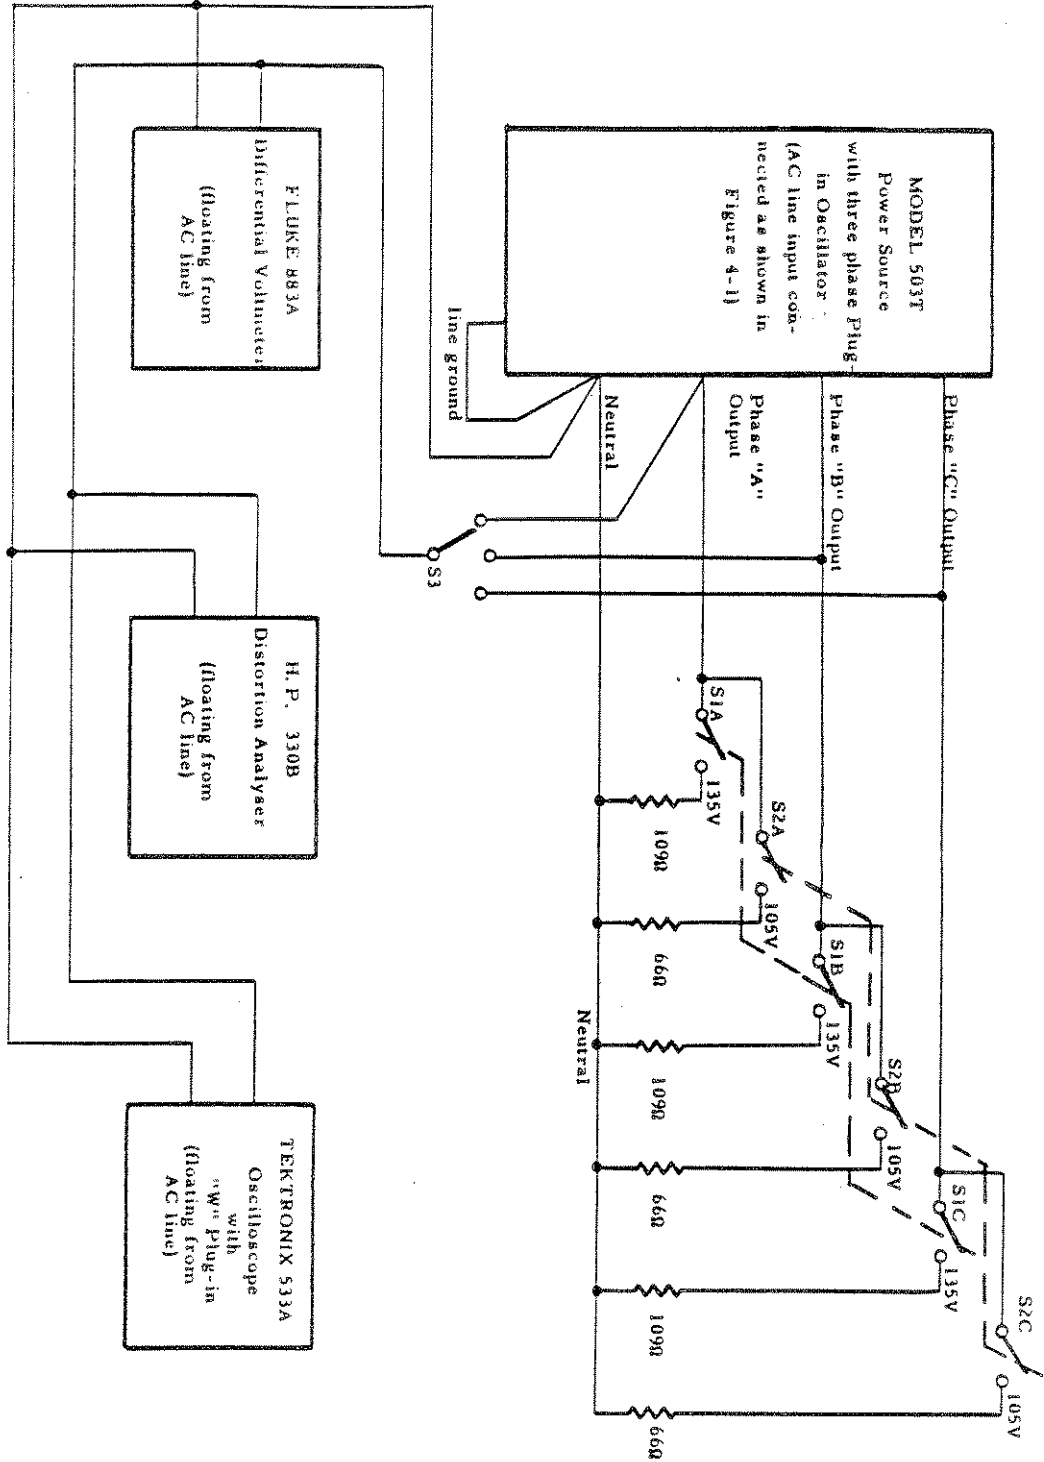
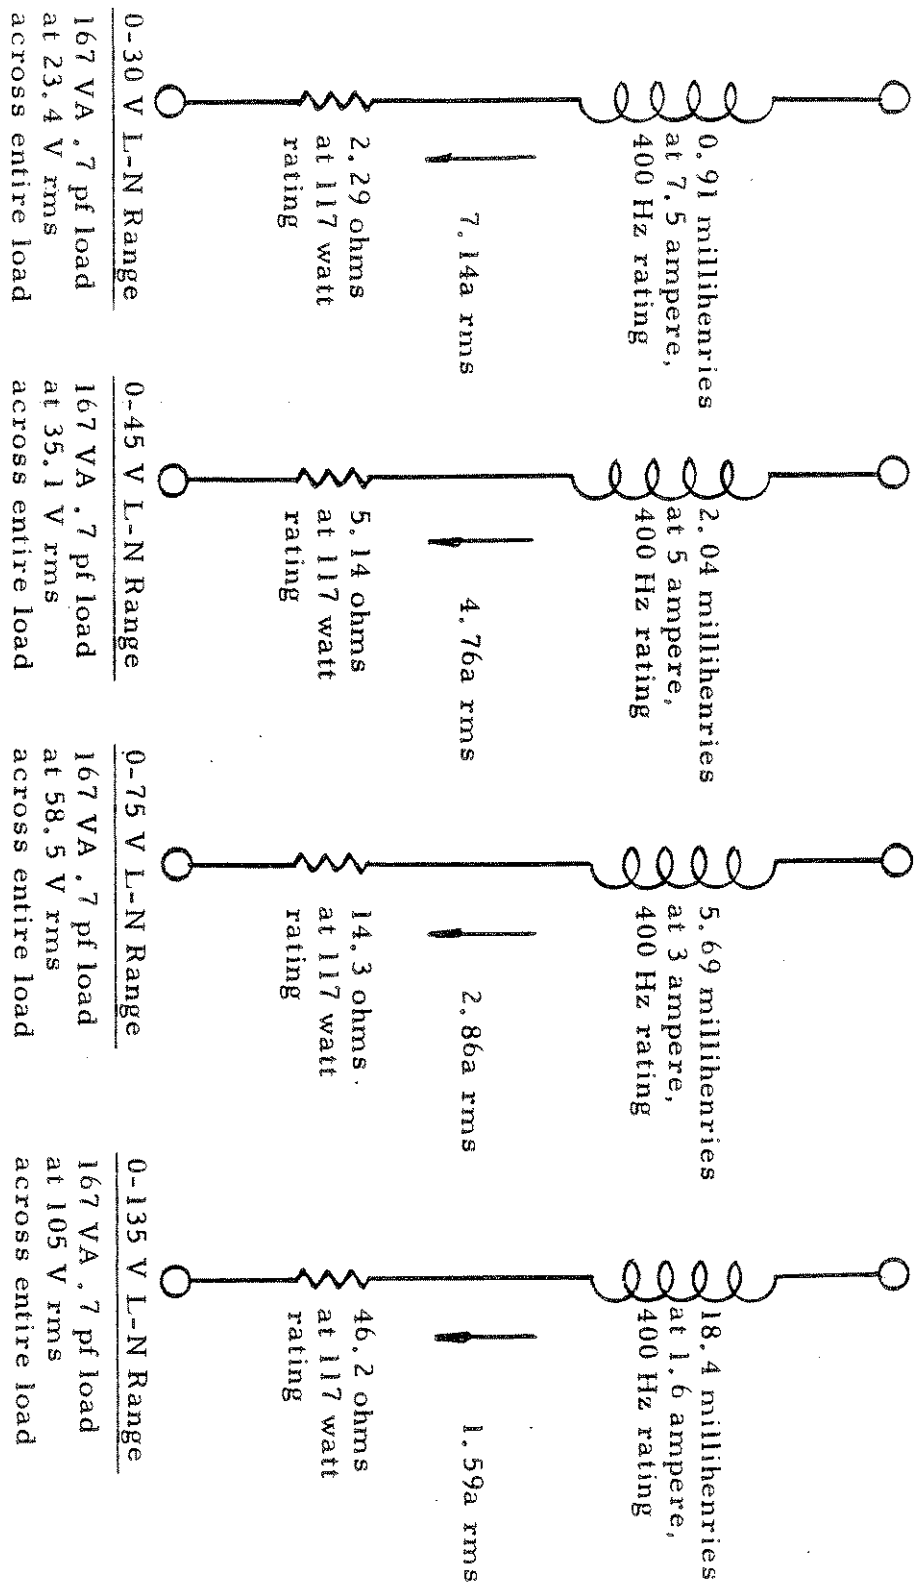
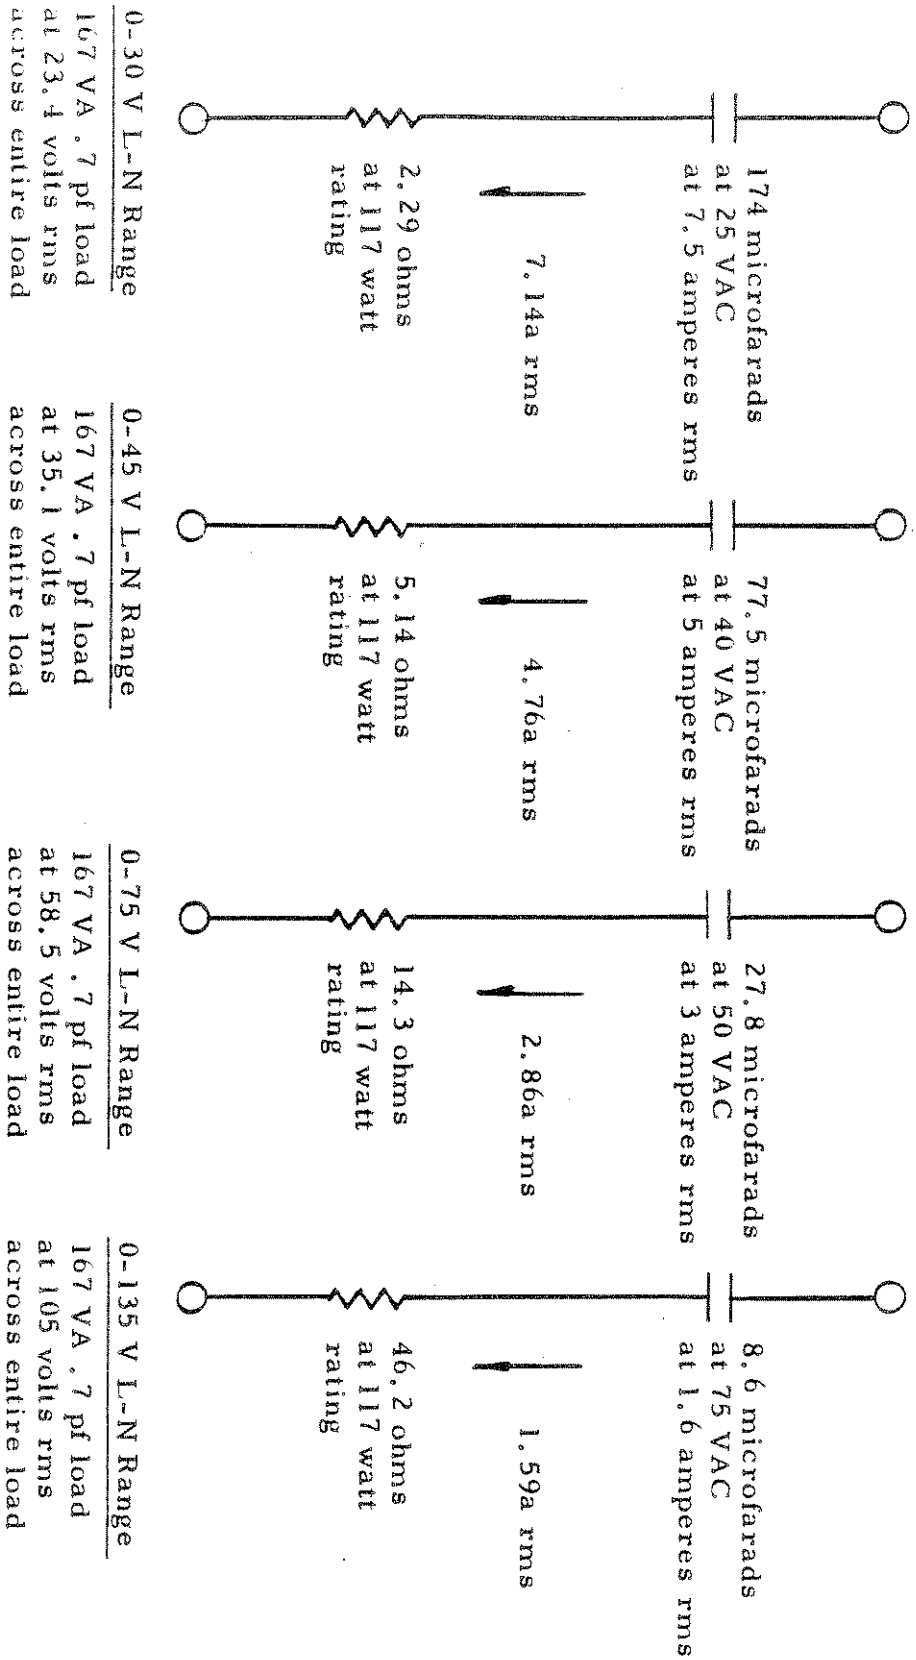

FIGURE 4-3. Test circuit for Model 503T Three Phase Power Source.
FIGURE 4-4. Circuit for 167 VA line-to-neutral 0.7 Lagging Power Factor Load at 400 Hz.
FIGURE 4-5. Circuit for 167 VA line-to-neutral 0.7 Leading Power Factor Load at 400 Hz.
- 4.4.1 Connect the Model 503T Three Phase Power Source as shown in Figure 4-3. Select the 135 volt L-N range according to the procedure given in section 2.4 of this instruction manual. Monitor the phase "A" to neutral output of the power source with the differential voltmeter, the distortion analyser, and the oscilloscope. Adjust the AMPLITUDE control on the associated three phase oscillator to provide a line-to-neutral output of 105 volts (78 per cent of rated output voltage) at 400 Hz. Close switch S2 (66 ohm load from line-to-neutral) and readjust the output voltage slightly, if required, in order to maintain a 105 volt output. The power source should deliver a clean sine wave output with less than 0.40 per cent distortion. Vary the frequency from 45 Hz to 5 KHz and check that the distortion does not exceed 0.75 per cent over the AC input line voltage range of 105-125 volts while maintaining the output voltage at 105 volts rms. Select zener diode A1CR6 so that no clipping or excessive distortion occurs on the positive peak of the output waveform under worst case conditions outlined above. Select resistor A1R44 so that no clipping or excessive distortion occurs on the negative peak of the output waveform under worst case conditions outlined above.
- 4.5.1 Connect the Model 503T Three Phase Power Source as shown in Figure 4-3. Adjust the AMPLITUDE control on the associated three phase oscillator to provide a phase "A" line-to-neutral output voltage of 135 volts (100 per cent of rated value) at 400 Hz with switch S1 and S2 both open so that there is no load on the output of the power source.
- 4.6.1 Connect the Model 503T Three Phase Power Source as shown in Figure 4-3. Select the 135 volt L-N range according to the procedure given in section 2.4 of this instruction manual.
- 4.7.1 Connect the Model 503T Three Phase Power Source as shown in Figure 4-3. Select the 135 volt L-N range according to the procedure given in section 2.4 of this instruction manual. Adjust the variac to provide a 115 VAC line input and allow the power
- 4.8.1 Connect the Model 503T Three Phase Power Source as shown in Figure 4-3. Select the 135 volt L-N range according to the procedure given in section 2.4 of this instruction manual. Adjust the variac to provide 115 VAC line input. Set the oscillator frequency to 400 Hz and adjust the AMPLITUDE control to provide a 135 volt line-to-neutral output (100 per cent of rated output voltage) with switch S1 closed so that a 109 ohm load is across each phase of the output of the power source.
- 4.9.1 Connect the Model 503T Three Phase Power Source as shown in Figure 4-3. Check that the load is connected to the three large red and the one large white binding post at the rear of the power source. The output voltage may be monitored either at the rear or the front of the power source. If it is monitored at the rear of the power source, care should be taken to use separate four-wire sensing. Adjust the output voltage of the power source to 105 volts line-to-neutral (78 per cent of rated output voltage) at 400 Hz.
- 4.10.1 Connect the Model 503T Three Phase Power Source as shown in Figure 4-3. Adjust the AC input line voltage to 115 volts rms. Adjust the output of the power source to provide 115 volts line-to-neutral (85.3 per cent of rated output voltage) at 400 Hz. Connect a 79.2 ohm (167 VA) three phase load to the output terminals at the rear of the power source and check that the regulation control has been set to provide a zero output impedance.
- 4.11.1 Connect the Model 503T Three Phase Power Source as shown in Figure 4-3. Adjust the input AC line voltage to 115 volts rms. Adjust the output of the power source to provide 135 volts line-to-neutral (100 per cent of rated output voltage) at 400 Hz. Vary the output frequency of the oscillator from 45 Hz to 10 KHz and monitor the phase "A" line-to-neutral output voltage of the power source with a differential voltmeter under no-load conditions. The line-to-neutral output of the power source should vary less than ± 8.0 volts rms from 45 Hz to 5 KHz and less than ± 16.5 volts rms from 45 Hz to 10 KHz. Repeat for the phase "B"-to-neutral output voltage and the phase "C"-to-neutral output voltage.
- 4.12.1 Connect the Model 503T Three Phase Power Source as shown in Figure 4-3. Adjust the line voltage to 115 volts rms. Adjust the output of the power source to provide 105 volts line-to-neutral (78 per cent of rated output voltage) at 400 Hz.
- 4.13.1 Connect the Model 503T Three Phase Power Source as shown in Figure 4-3. Select the load circuit to correspond with the required output voltage range. Figure 4-4 illustrates the load circuit and gives load parameter values for a 167 VA per-phase 0.7 power factor load at 400 Hz with 78 per cent of rated output voltage from the power source. This represents the worst case inductive load for maximum power dissipation inside the power source.
4.14.1 Connect the Model 503T Three Phase Power Source as shown in Figure 4-3. Select the load circuit to correspond with the required output voltage range. Figure 4-5 illustrates the load circuit and gives load parameter values for a 167 VA per phase line-to-neutral 0.7 power factor load at 400 Hz with 78 per cent of rated output voltage from the power source. This represents the worst case capacitive load for maximum power dissipation inside the power source.
4.15.1 Connect the Model 503T Three Phase Power Source as shown in Figure 4-3. Select the 135 volt L-N range according to the procedure given in Section 2.4 of this instruction manual. Adjust the variac to provide a 115 volt AC line input. Set the oscillator output to 400 Hz and adjust the AMPLITUDE control to provide a 135 volt (100 per cent of rated output voltage) line-to-neutral output with switch S1 closed. This provides a 109 ohm symmetrical load across each phase of the output of the power source.